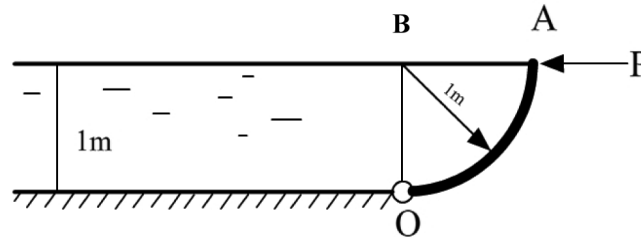

Figure Q1
- b) A water tank has a gate in the form of a quadrant of a circle of radius 1 m as shown in Figure Q1. The gate OA is hinged at O and it supports water on one side as shown. Width of the gate (in the direction perpendicular to the vertical plane containing OA) is 3 m. Calculate the external force required to hold the gate in its given position. (10 marks)